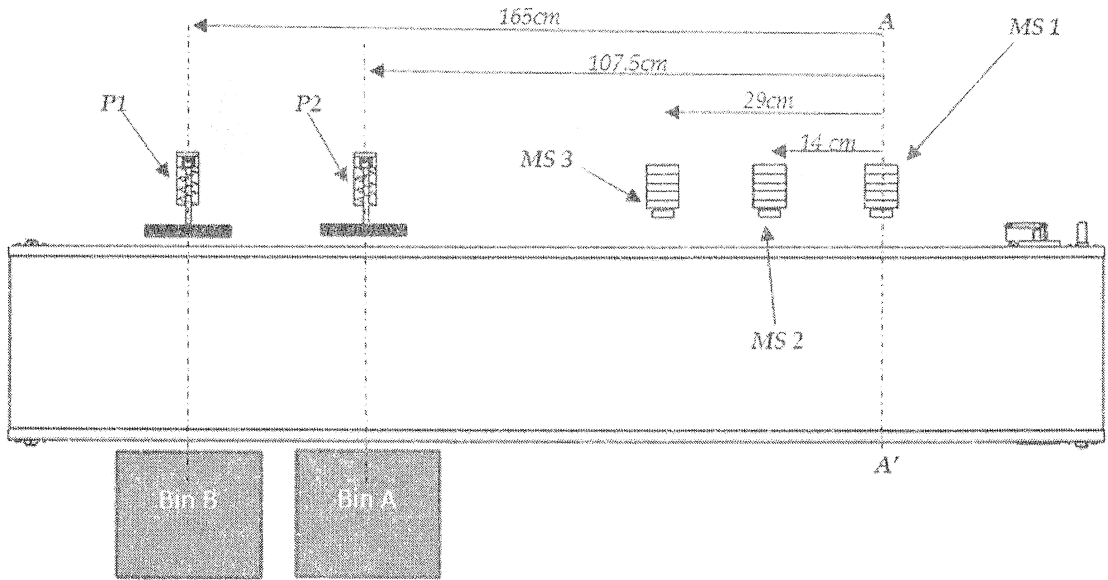

Figure Q4(c): Conveyor System
- c) Figure Q4 (c) shows a length-based sorting conveyor system in an assembly plant. The "system start" and "system stop" is done using a detent (selector) switch. The Conveyor is used to sort-out metal bars of 15cm and 30cm.